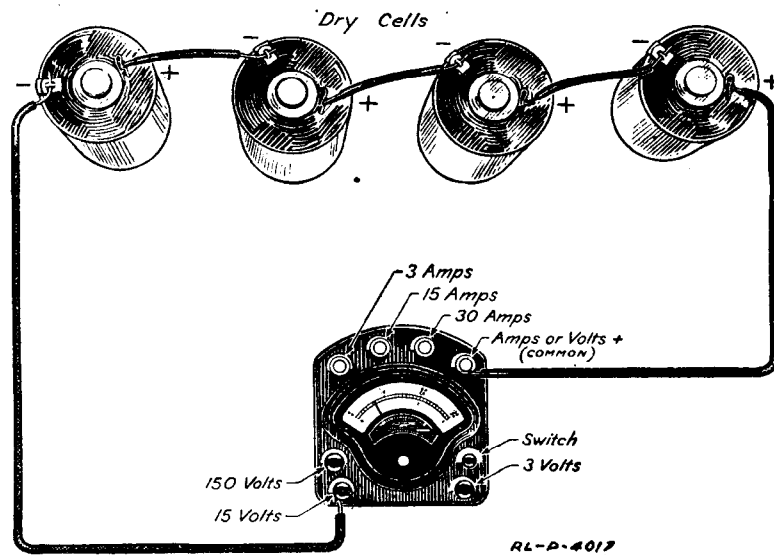

Fig. 4.—Method of connecting four dry cells in series.
*Series connections.*—At times it is necessary to use a voltage greater than the initial voltage of a single cell. As stated in the description of the BA-2 and BA-8 batteries, 15 cells are connected together in order to obtain 22 volts. When the cells are connected in this manner they are said to be connected in *series*. Fig. 4 shows how four type BA-10 reserve dry cells are connected in series for delivering current at a pressure of 6 volts.
2. Connect four type BA-10 cells in series as shown in Fig. 4. The positive terminal of one cell is connected to the negative terminal of the second cell. The negative terminal of the second cell is connected to the positive terminal of the third cell and so on. Measure the voltage of the four cells in series using the terminals marked "15 Volts" and "+Volts" on the voltammeter.